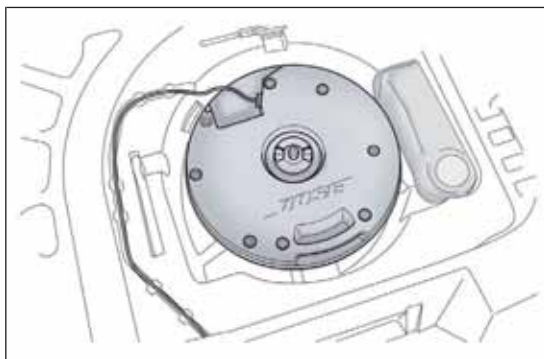

fig. 124
- ☐ take the "Fix&Go Automatic Kit" located on the left side of the luggage compartment (fig. 124);